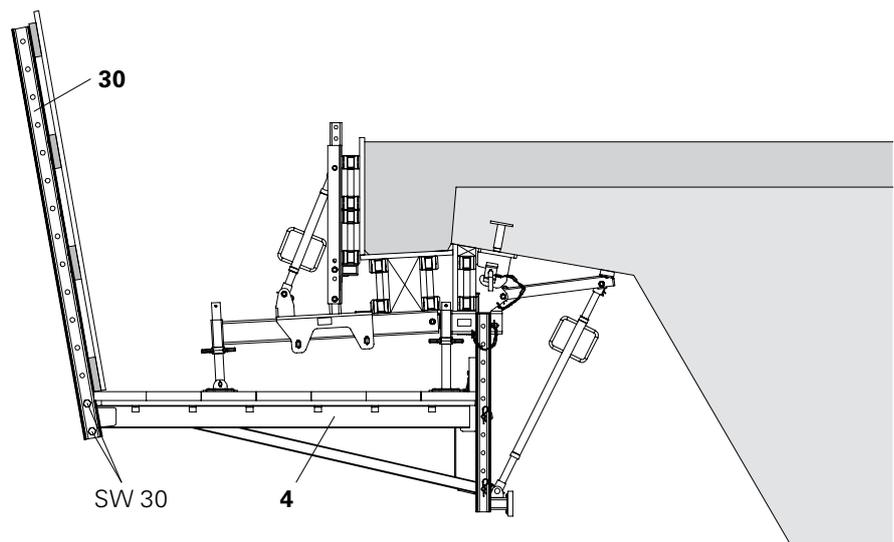

Fig. A1.04
1. Attach Guardrail Post RCS/SRU 184 (30) to Platform Cantilever Beam VGK 170 (4), SW 30.
- (Fig. A1.04)